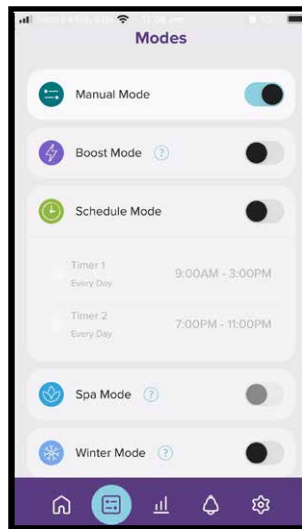

Figure 9.32
- Should you wish to add two separate timers, repeat the process above. They will appear in the Modes menu as shown (ref Figure 9.32).